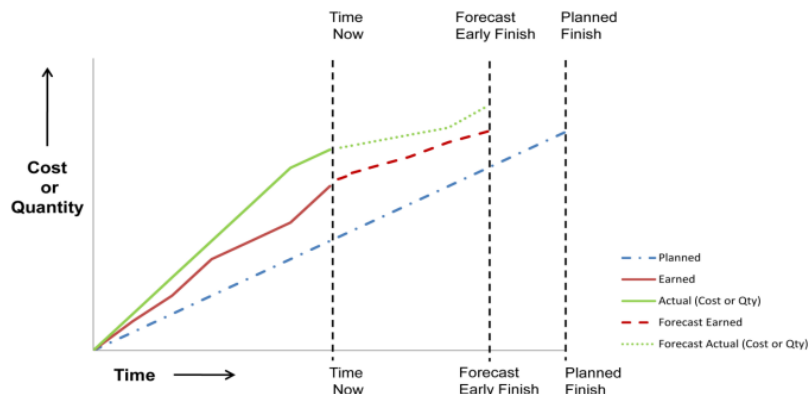

Figure 6 – Earned Value S-Curve
- ❖ SPI results could **range above and below 1.0** but would require additional confirmation (as shown on Figure 6) that the **actual progress falls somewhere** between the early and late values.